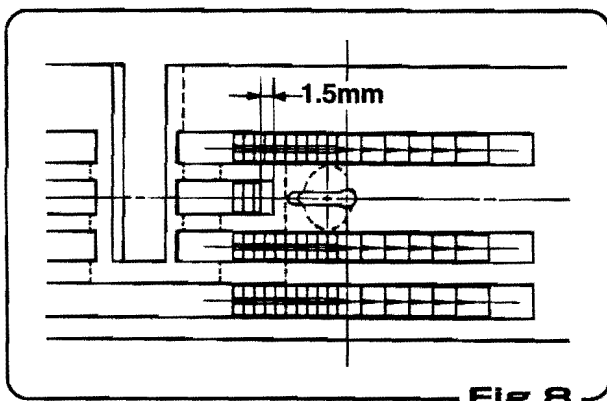

Fig.8
- a) Ensure that the feed dog does not touch the throat plate as it passes through. A clearance of 1.5mm should be seen between the middle teeth of the front feed dog and the throat plate as indicated (Fig.8).
送り金がかもっとも前進したとき、針板の溝と送り金の間隔は1.5mmです。(Fig.8)